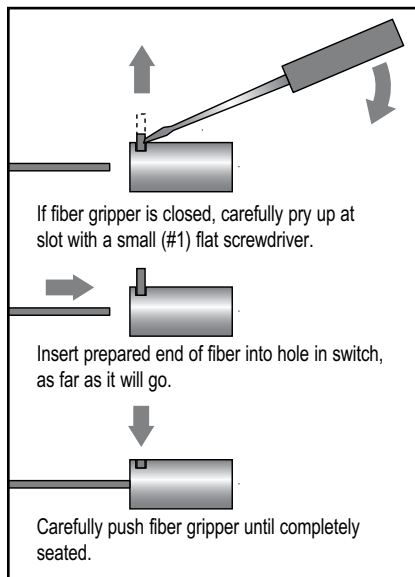
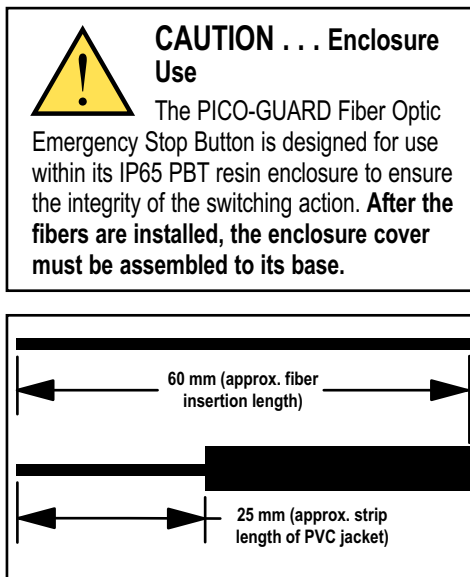

Figure 1. Fiber connections
Figure 2. Fiber insertion guide
3. If the fiber gripper is closed (flush with the body of the interlock switch inside the enclosure), use a small flat screwdriver to carefully pry up the gripper until the fiber can be inserted into the body (see Figure 1). When using PVC-jacketed fiber, strip the PVC jacket approximately 25 mm (see Figure 2). Insert the fiber end into the body until it bottoms out (approximately 60 mm). Then carefully push the fiber gripper tab until flush with the body of the interlock switch. Repeat with the second fiber.